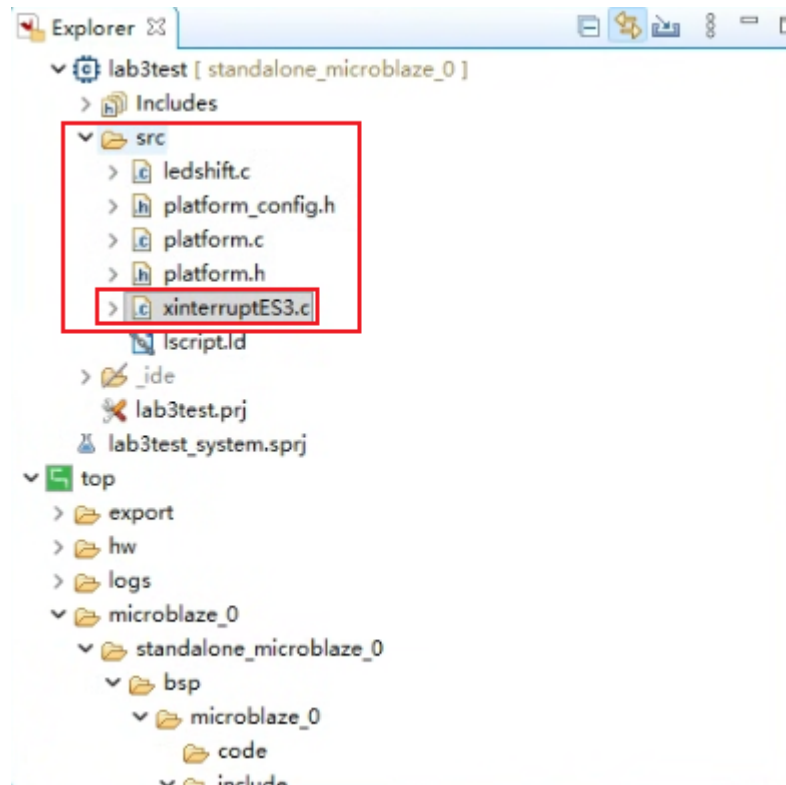

Figure 17.
- As shown in Figure 17, copy the **xinterruptES3.c** file to the **src** folder. As shown in Figure 18, write an **hwTimerISR**, which rotates the content of **ledValue** to the left every interrupt event using the shift instruction. **Note that the hardware timer gives an interrupt every 0.1 second.**